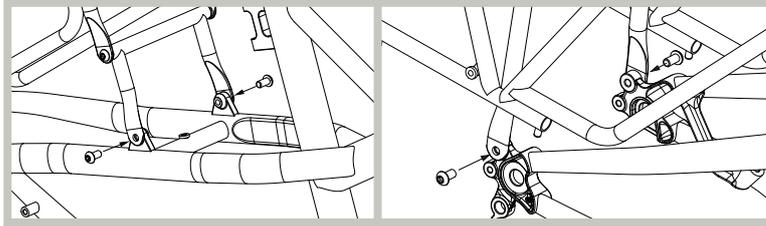

Figure 2
2. Attach the rack to bike frame using four (4) M6 bolts. (Figure 2)